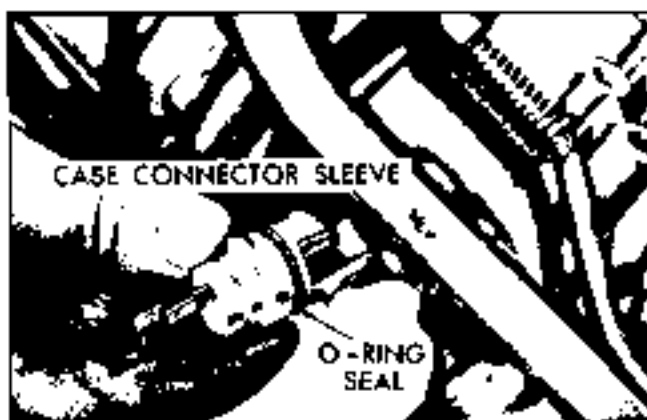

Fig. 7E-23 Removing Case Connector Sleeve and O-Ring Seal
8. Remove six (6) check balls from cored passages in transmission case (Fig. 7E-24).